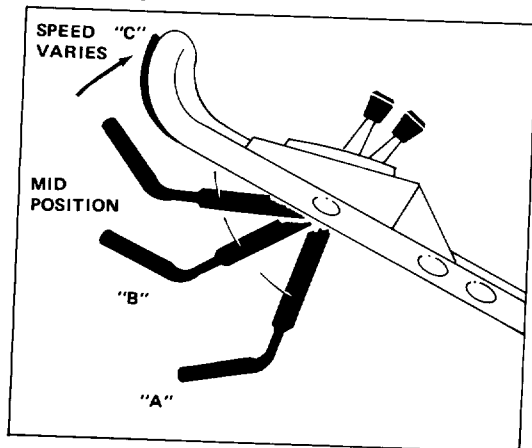

Figure 11
5. **BLADE AND TRACTION OPERATION** (Fig. 11) – Move control bar down to "A" and raise to engage blade "B". Move ground speed control to desired setting and squeeze control bar against handle "C" to drive. Ground speed varies, depending on space between control bar and handle. To disengage traction drive, but keep blade engaged, gradually release control bar to mid position. To self-propel with blade disengaged, simply squeeze control bar against handle, eliminating downward movement necessary for blade engagement.